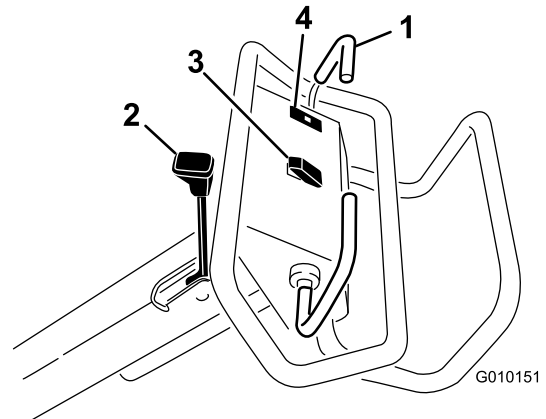

Figure 11
To move forward, move the traction bail forward. To move rearward, move the traction bail rearward (Figure 11).
- To engage the parking brake, move the parking-brake lever toward the operator handle (Figure 11).
The oil-pressure warning light (Figure 11) illuminates when the engine-oil pressure drops below a safe level. If low oil pressure ever occurs, shut off the engine and determine the cause. Repair the damage before starting the engine again.
**Raise**—Press the top of the switch (Figure 11) to raise the coring head and disengage the coring head. The engine must be running to generate lift pressure. If the coring head is below the transport height, refer to Resetting the System Control Circuit \(page 24\).
**Lower/Engage**—Press the bottom of the switch (Figure 11) to lower and engage the coring head. The traction bail must be in the forward position to activate the switch.